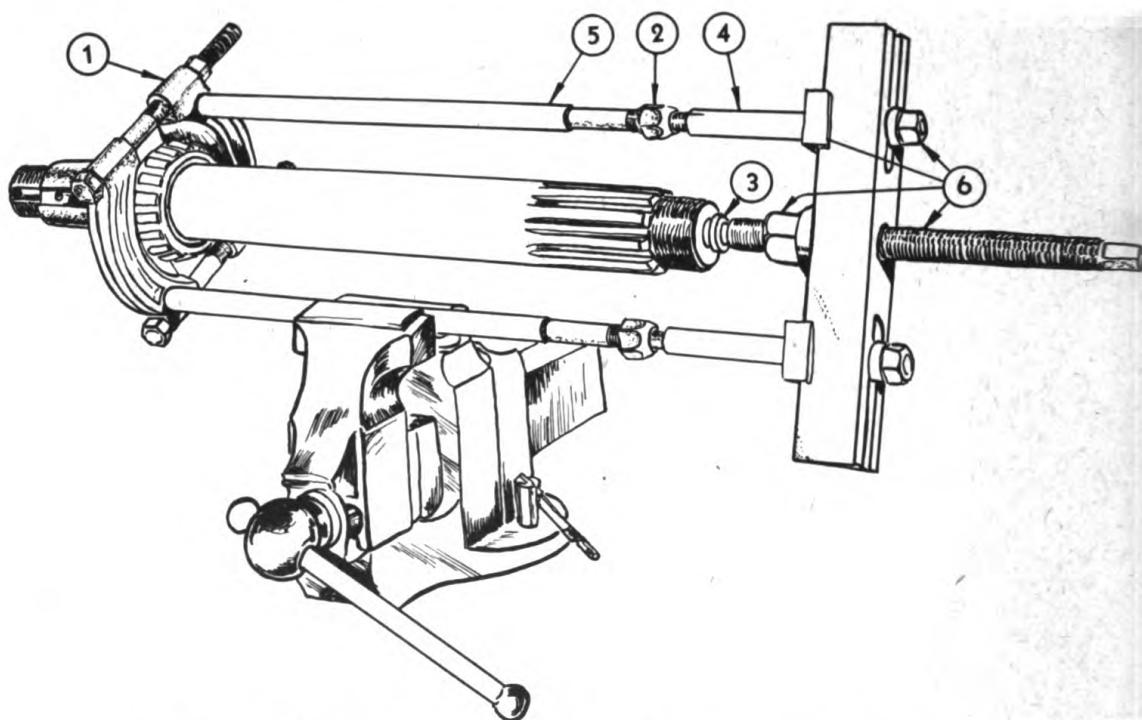

Fig. 36. Bearing Puller—Note: This puller necessary when removing rear axle outer bearing.
- 1—Fig. 36 1—952-A Bearing Pulling Attachment.
- 2—Fig. 36 2—924 Threaded Adapters $\frac{3}{4}$ N. T.
- 3—Fig. 36 1—630-3 Step Plate 1" x $1\frac{1}{4}$ ".
- 4—Fig. 36 2—930-E Push Puller Legs, $4\frac{1}{2}$ " long.
- 5—Fig. 36 2—930-B Push Puller Legs, $16\frac{1}{2}$ " long.
- 6—Fig. 36 1—938 Push Puller with 930-E— $4\frac{1}{2}$ " legs.